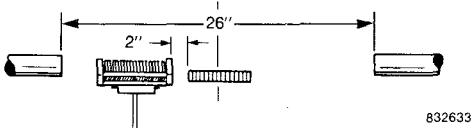

Fig. 30—Adjust head.
- Adjust head to either right or left of splice center module. See Figure 30.